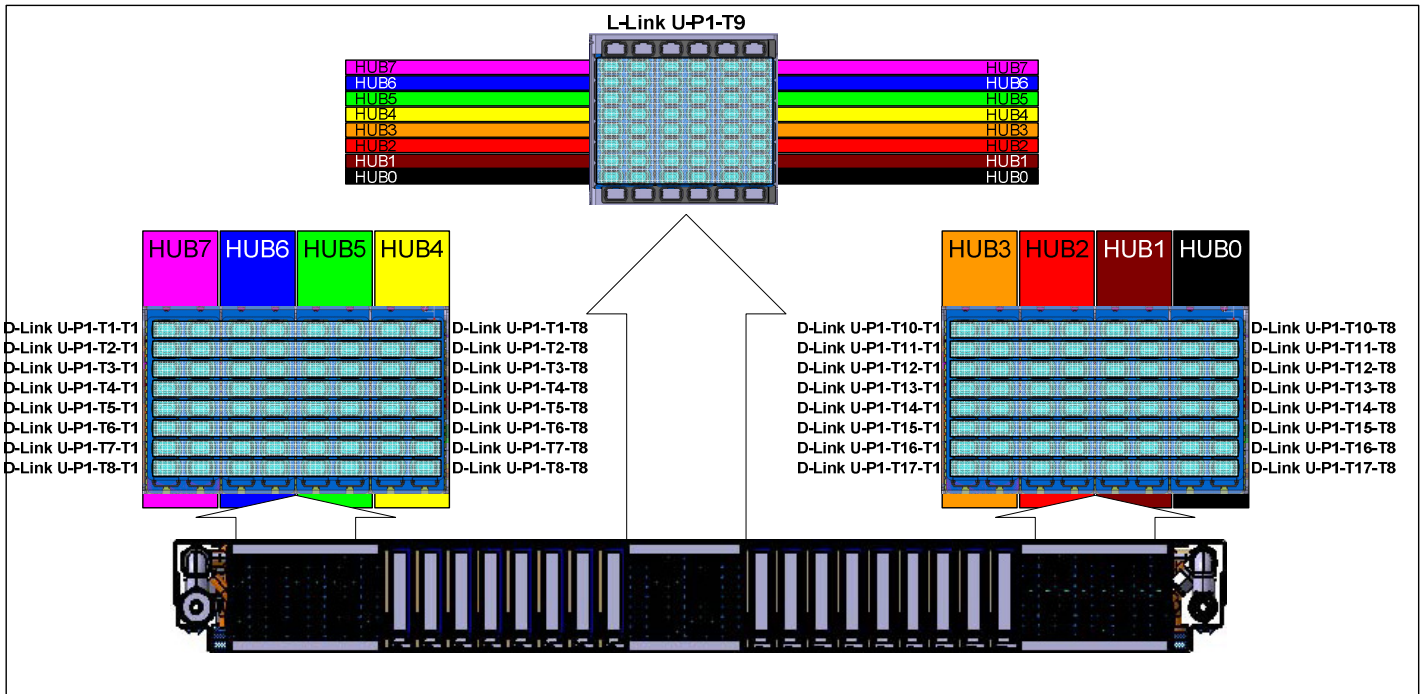

Figure 13 Location Codes for D-Link and L-Link assemblies
(See Figure 13 for the location codes for the D-Links and the L-Link backplane assembly)
STEP 21 Disconnect the L-Links from the CEC Drawer being serviced if present. (some CEC Drawer will not have L-Links). Refer to Figure 13 above. (It is important to note that we must take every precaution to ensure that the L link do not get dirt, dust or other debris on them)